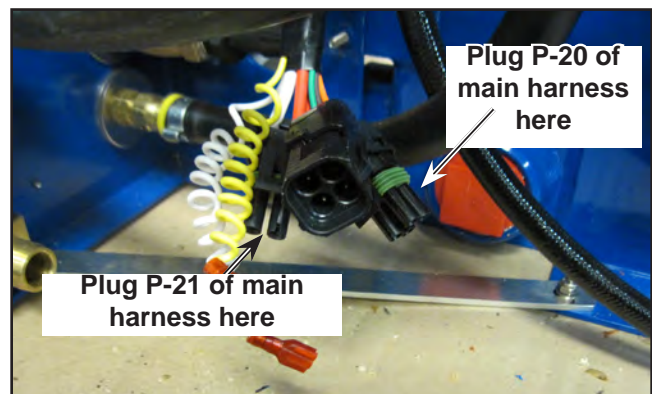

Figure 27. Plug Main Harness into Jacks
1. Plug the into the jacks located by the Recovery Tank (behind the instrument panel - see Figure 27).